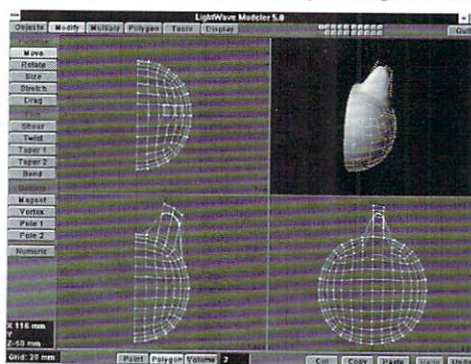

Figure 1
•Using the Move Tool (Modify Menu) in the Face View, move the polygons up and to the right (Figure 1), or press the (n) key to use the numeric requester (8 mm, 40 mm, 0 mm). To make the ear a bit wider at the top, use the Stretch Tool (Modify Menu). Placing the cursor right in between the two selected polygons in the Top View, press the left mouse button, and move the cursor slightly to the right. Or numerically, stretch on the X axis with a factor of 1.55, and a center of (46 mm, 0 mm, 6 mm). Then deselect the polygons.